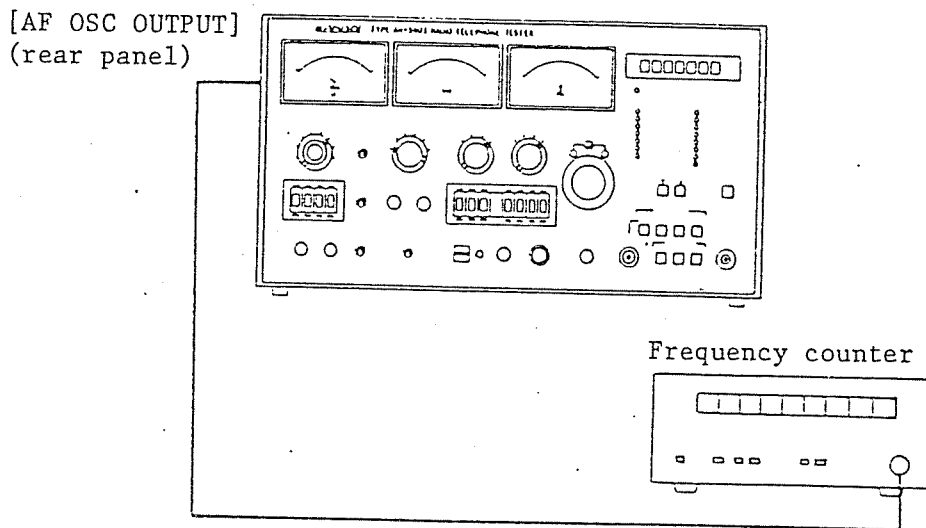

Fig. 3-20 Output frequency range test
- (1) Connect a frequency counter to the [OUTPUT] connector of the [AF OSC] located on the rear panel of this apparatus as shown in Fig. 3-20.
- (2) For this test, the controls of this apparatus may be at any positions.
- (3) Place the [LEVEL] knob of the [AF OSC] located on the rear panel at about the center position.
- (4) Set the [AF OSCILLATOR 50 ~ 2999 Hz] to [2999] and the [FREQUENCY RANGE] to [x1]. Then, count the frequency with the frequency counter and verify that the error is within  $\pm 0.1$  Hz. Repeat the same after setting the [FREQUENCY RANGE] to [x0.1].